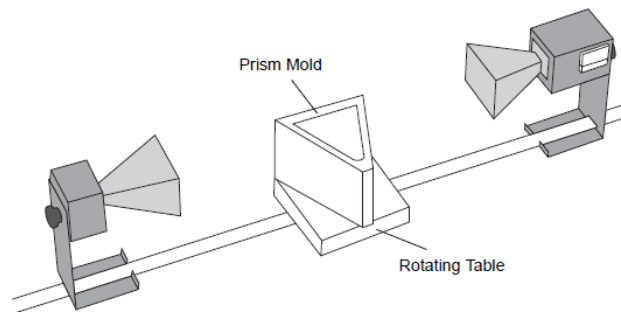

Figure 7: Equipment setup
1. Arrange the equipment as shown in Figure 7